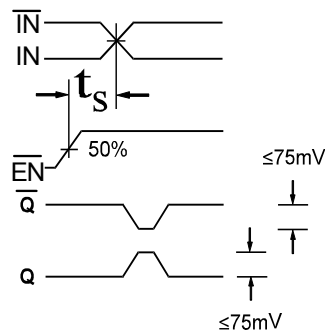

Figure 1. Setup Time
- The setup time is the minimum time that  $\overline{\text{EN}}$  must be asserted prior to the next transition of IN/ $\overline{\text{IN}}$  to prevent an output response greater than  $\pm 75\text{mV}$  to that IN/ $\overline{\text{IN}}$  transition (see Figure 1).